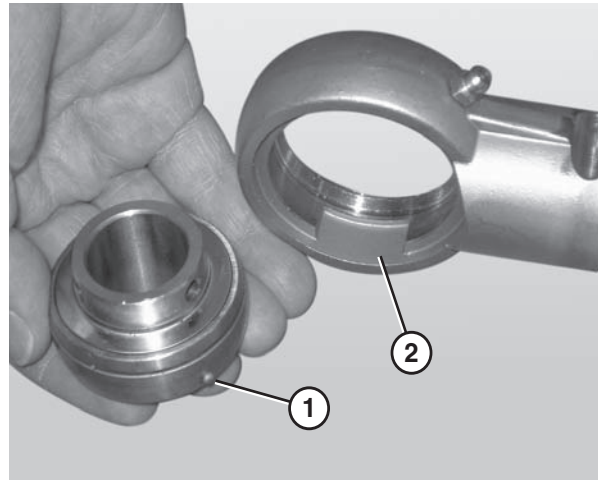

Figure 75
4. Remove the worn or damaged bearing (**Figure 75**).
*When inserting the new bearing, make sure the anti-rotation notch (**Figure 75, item 1**) on the bearing lines up with the groove inside the housing (**Figure 75, item 2**).*